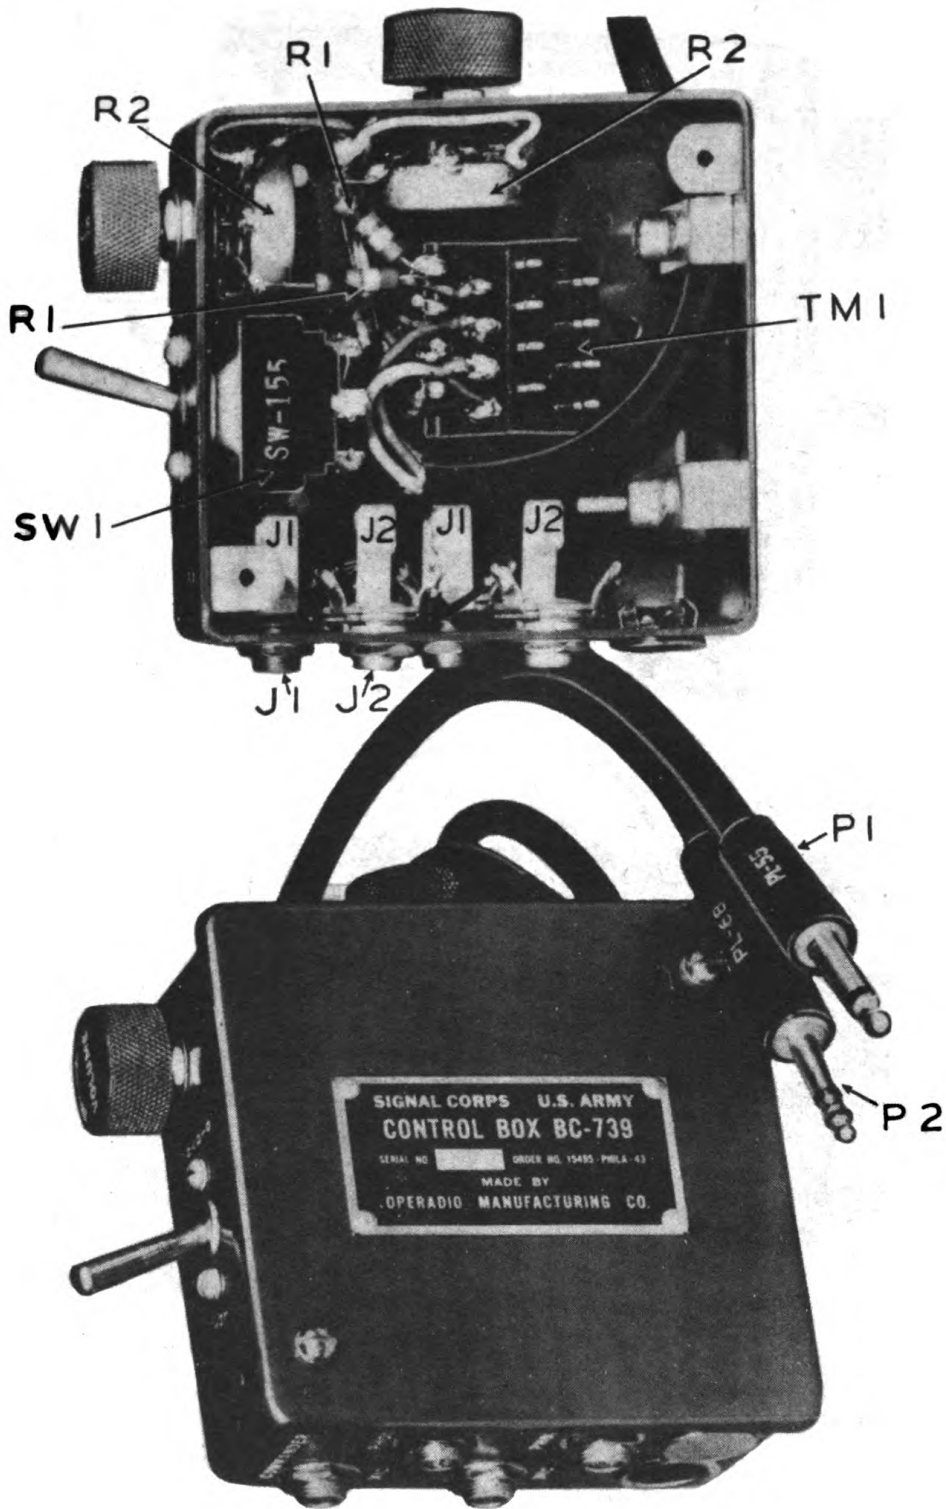

FIGURE 6. CONTROL BOX BC-739
(4) Control Box BC-739 - (See Fig. 6) -